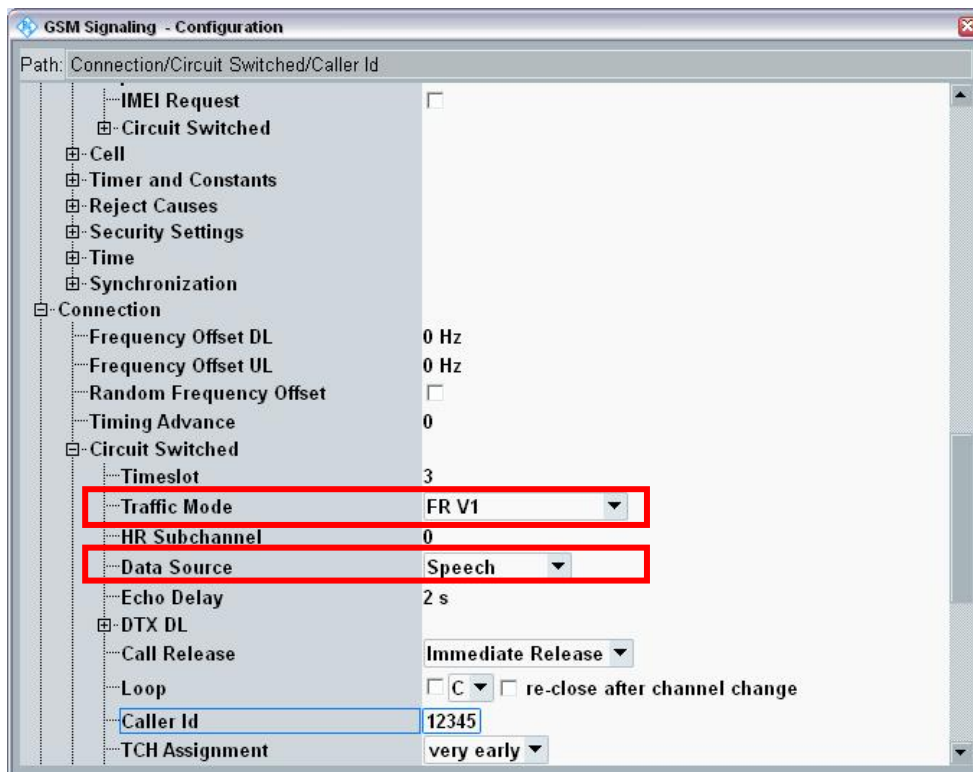

Figure 33: GSM Circuit Switched
5. Set **Data Source** to **Speech** (Figure 33: GSM Circuit Switched).